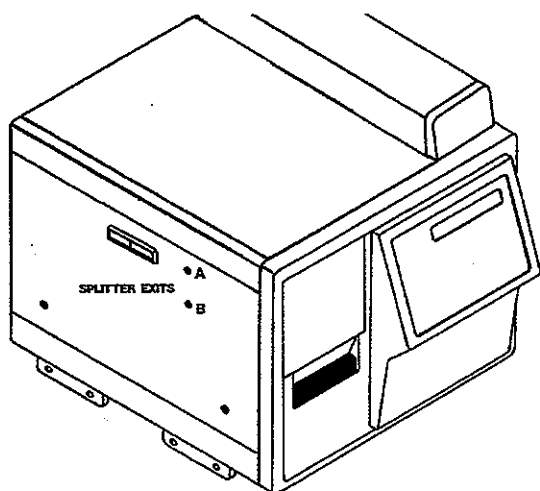

Figure 12 Splitter Exit Vent Locations
7. Zero Calibration: Attach a bubble flowmeter to the exit vent of the splitter. Make sure that the fitting that attaches the exit tube to the back pressure regulator is not leaking. The splitter exit vent is on the side of the GC (see Figure 12). The upper vent is the A side and the lower vent is the B side. Turn down the splitter flow controller until the flow out of the splitter exit vent measures 9 mL/min flow (6.7 sec/1 mL).